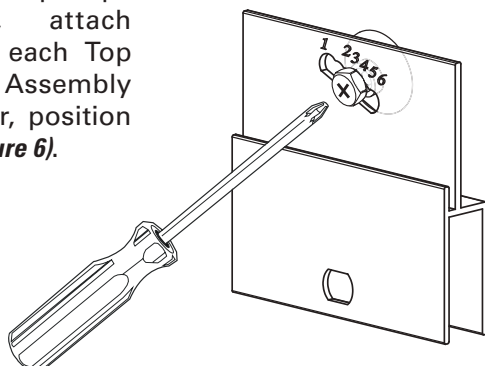

Figure 6
B. Using a phillips screwdriver, attach a Wheel to each Top Rail Wheel Assembly in the center, position "3" (See **Figure 6**).